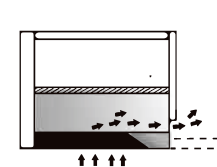
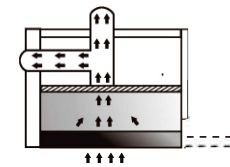

Fig.12
Fig.13
4. The hood may be installed in the filtering (Fig.12) or the ducting version (Fig.13).
Ducting version (Fig.13):